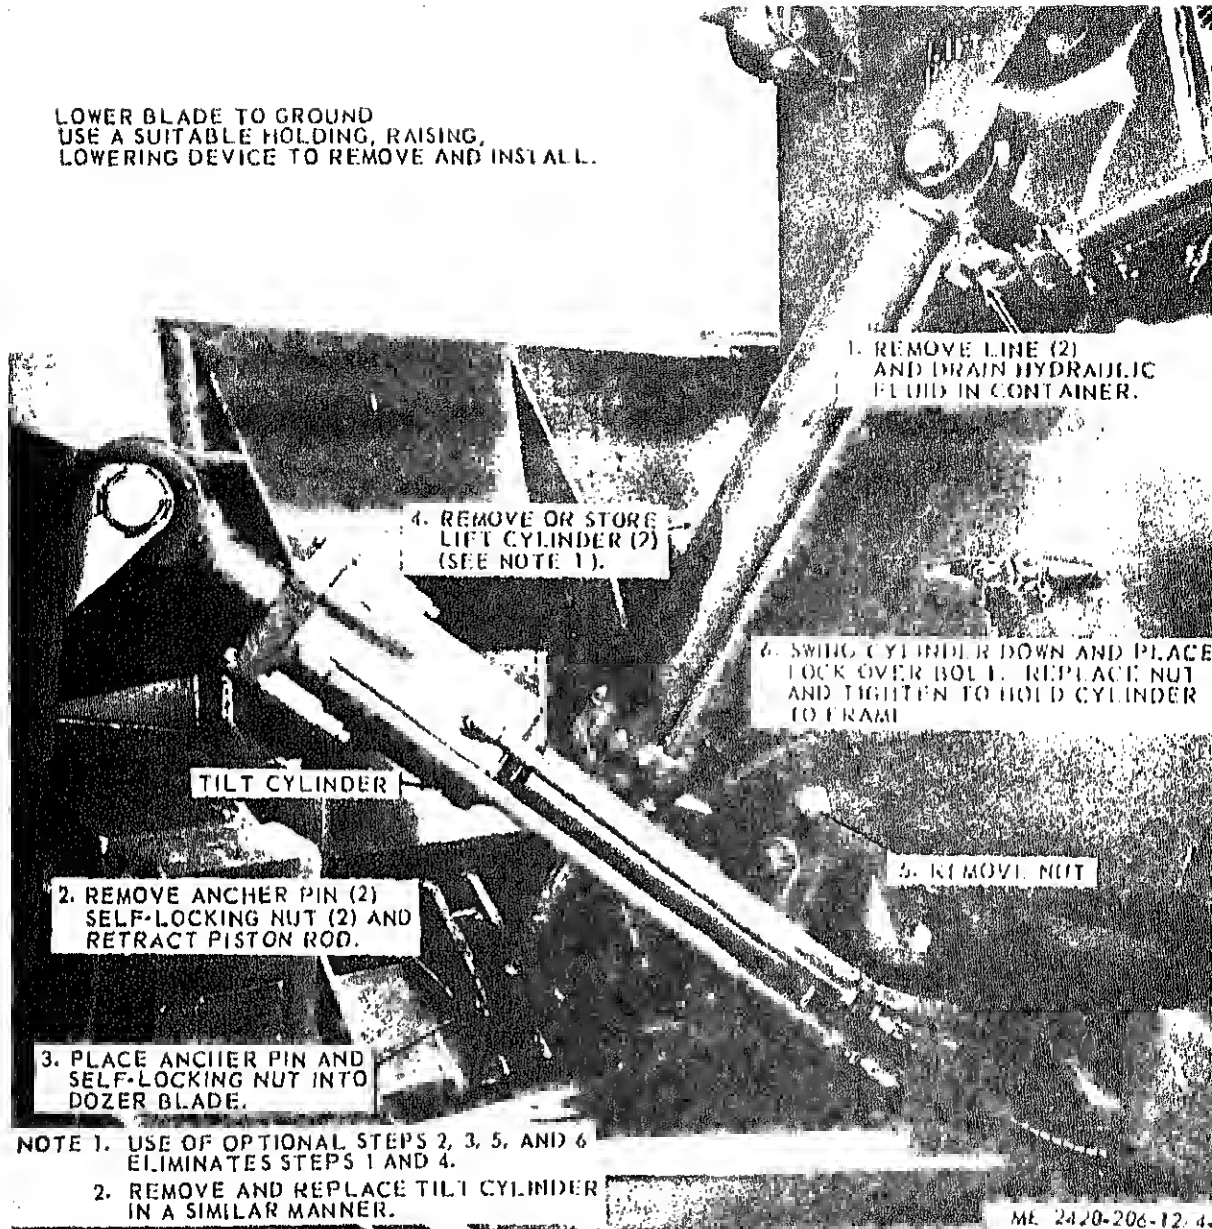

Figure 4-5. Bulldozer lift and tilt cylinder, removal,
a. *Removal and Disassembly.* Remove and disassemble bulldozer lift and tilt cylinders as illustrated in figure 4-5.
(1) Clean parts and dry thoroughly.
(2) Inspect for wear, cracks, breaks and damage. Replace defective parts as necessary. Replace wear ring assembly, preformed packing seals.
c. *Reassembly and Installation.* Reassemble and install bulldozer lift and tilt cylinders as illustrated in figure 4-5. Lubricate interior of cylinder bores, rings, and piston.